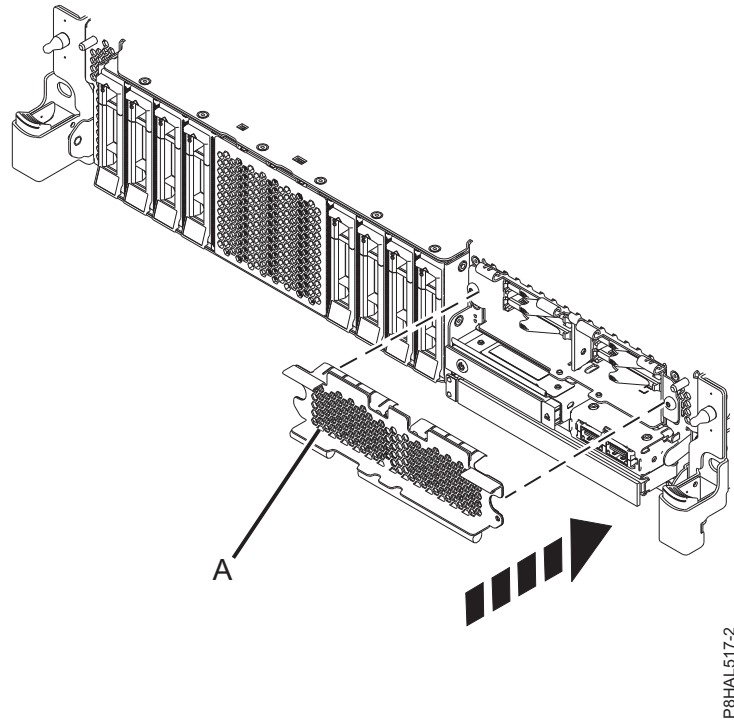

Figure 9. Covering the SSD cage in an expanded function system
3. If applicable, cover the SSD cage with the perforated plate (A) as shown in Figure 9 on page 13.